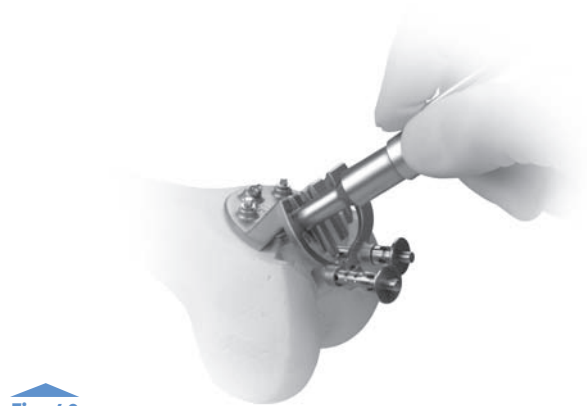

Fig. 40
- Pull up until stop is reached and release the button. (“Mill” position – The gold band should be visible above guide) (Fig. 40).